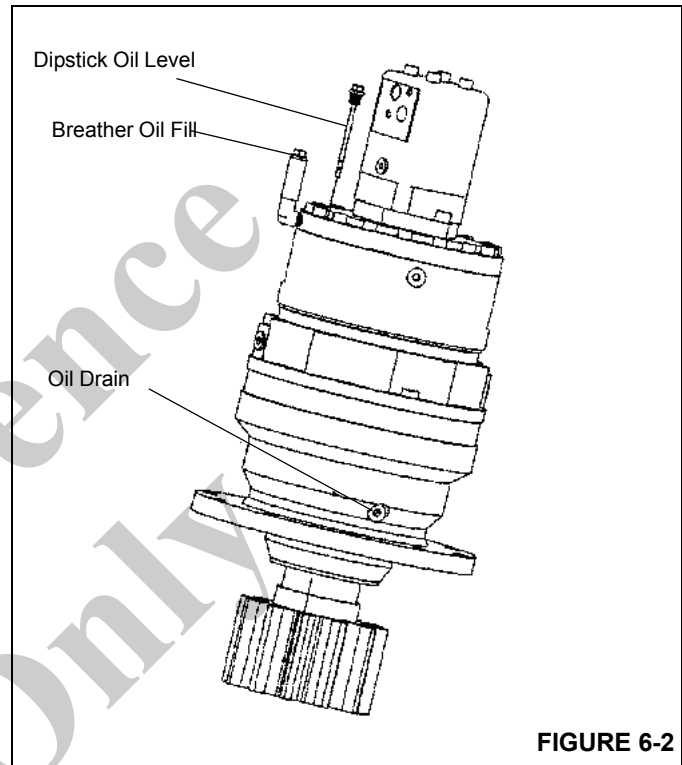

FIGURE 6-2
4. To refill with oil (see Figure 6-2), make sure the breather is open. Insert oil through breather oil fill until it reaches proper location on dipstick.